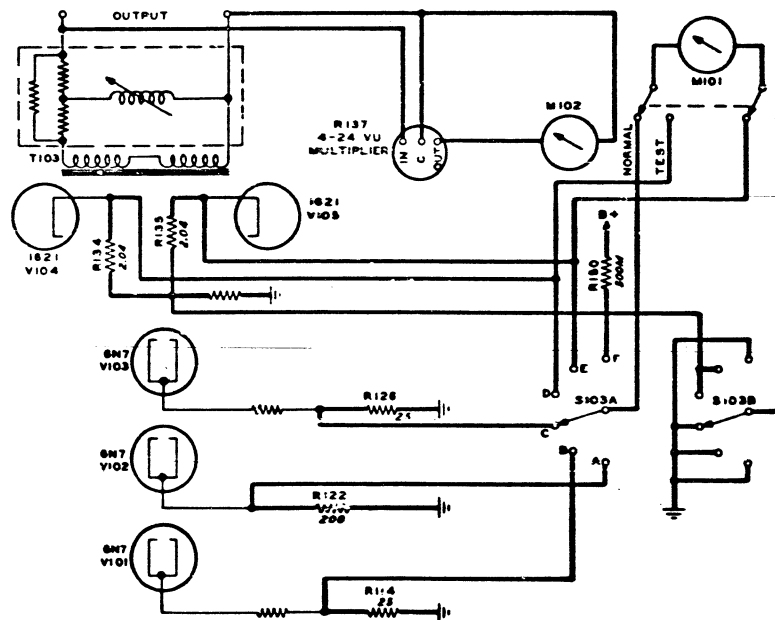

Figure 2-6. Metering Circuits
e. METERING CIRCUITS. - The arrangement of the metering circuits provides a continuous visual indication of operating conditions. Refer to Figure 2-6. The meter, M101, may be connected to measure any one of the following by the operation of the metering selector switch S103, (A) amount of compression, (B) input amplifier cathode current, (C) interstage amplifier cathode current, (D) V104 cathode current, (E) V105 cathode current and (F) plate supply voltage. The resistors, R114, R122, R126, R134, R135, are used as meter shunts when measuring the cathode currents. A series multiplier resistor, R150, is used when measuring the plate supply voltage. A VU level indicator, M102, is connected across the output load terminals. A range multiplier, R137, is provided. The output level of the amplifier is obtained by adding the setting of the OUTPUT LEVEL attenuator algebraically to the reading of the scale of the VU level indicator M101. For example, if the OUTPUT LEVEL attenuator is set on 10 and the meter swings up to -3 on its scale, the output level is plus 7 VU.